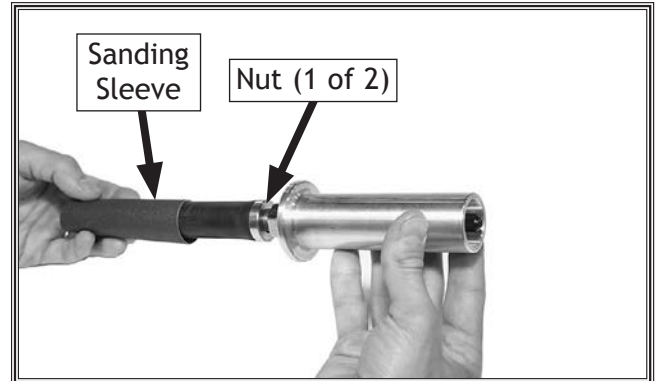

Figure 4. Example of installing sanding sleeve.
1. Remove plastic end-cap on handle with a small flat head screwdriver, then unthread and remove air valve cap (see Figure 4).
1. Remove plastic end cap and air valve cap, press air valve stem to deflate drum fully, remove existing sleeve and slide new one onto drum, as shown in **Figure 4**.